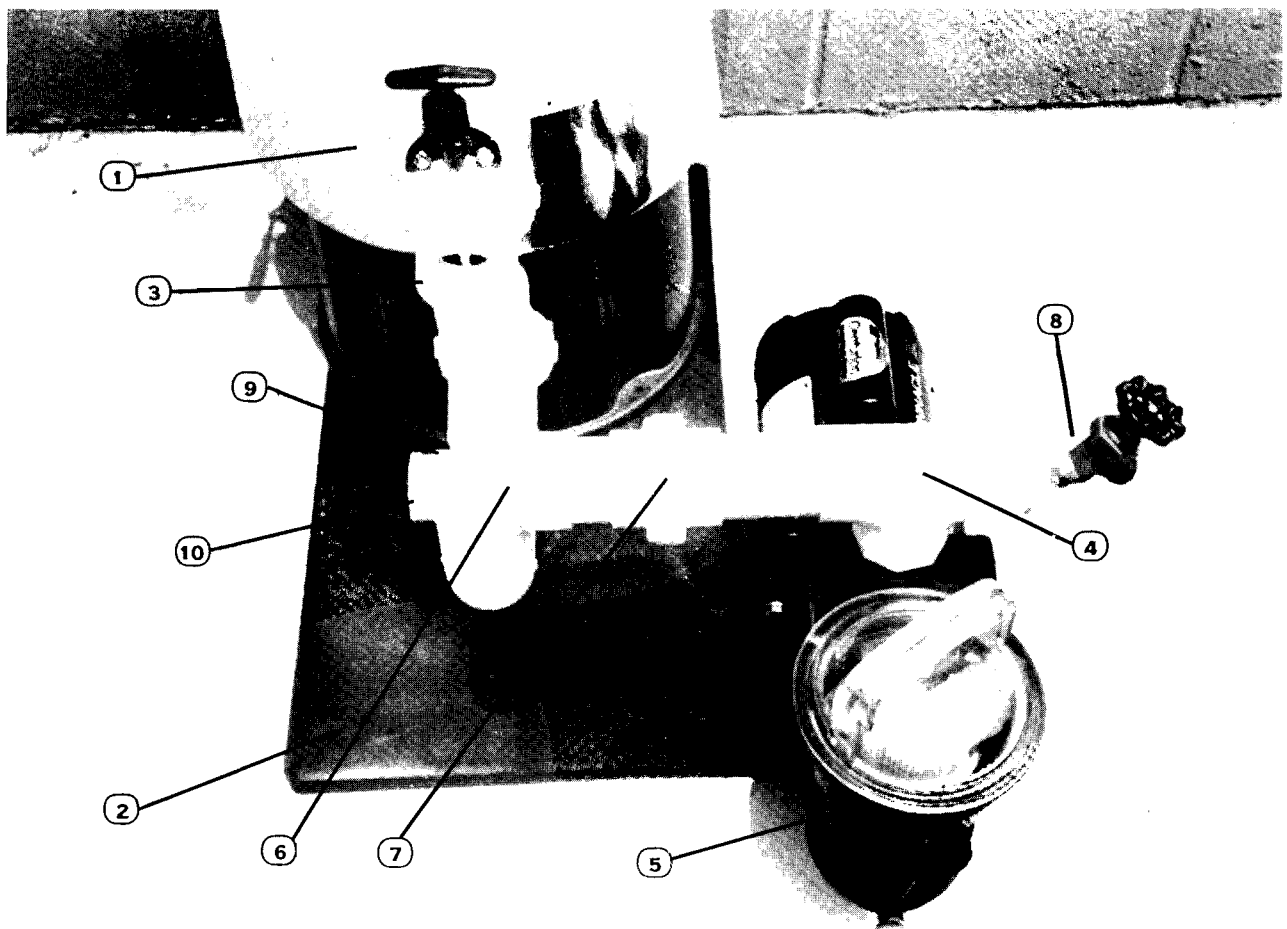

FIGURE 1
1. Place the filter (No. 1) on the skid base (No. 2) and position the filter so the two port holes are facing the same direction as shown in figure 1.
4. Remove pump lid and install the tee assembly (No. 4), using teflon tape or silicone on the threads to ensure no leaks. To install, screw the tee assembly (No. 4) to the discharge port of the pump (No. 5) until you have a snug fit. The tee assembly, (No. 4), should be oriented as shown in Figure 1.